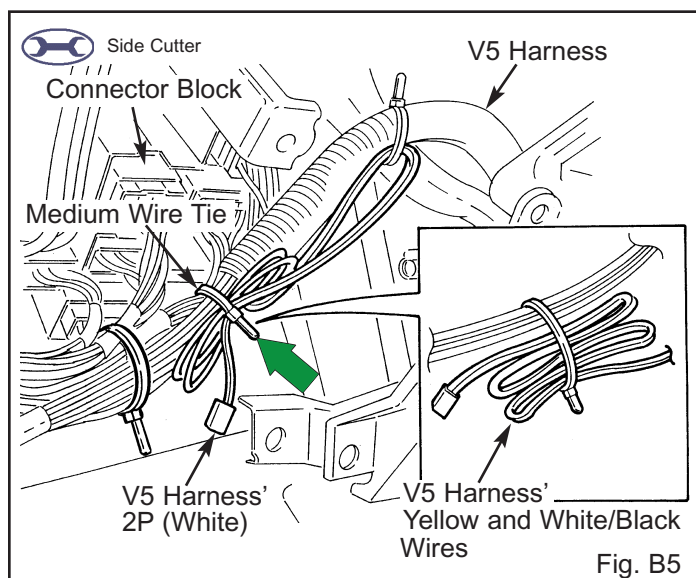

Fig. B5
8. Bundle the V5 harness' yellow and white/black wires, then secure it to the vehicle harness and V5 harness with one medium wire tie. (Fig. B5)